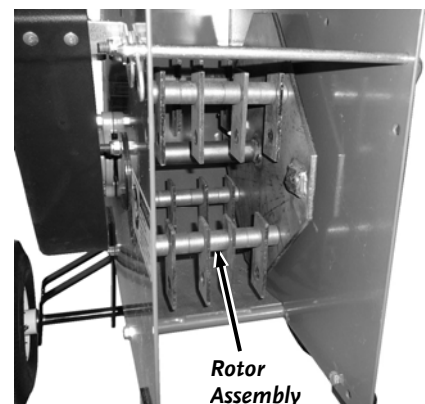

Figure 11
5. Remove any debris wrapped around the Hammers, Shaft or any other portion of the Rotor Assembly (**Figure 11**).